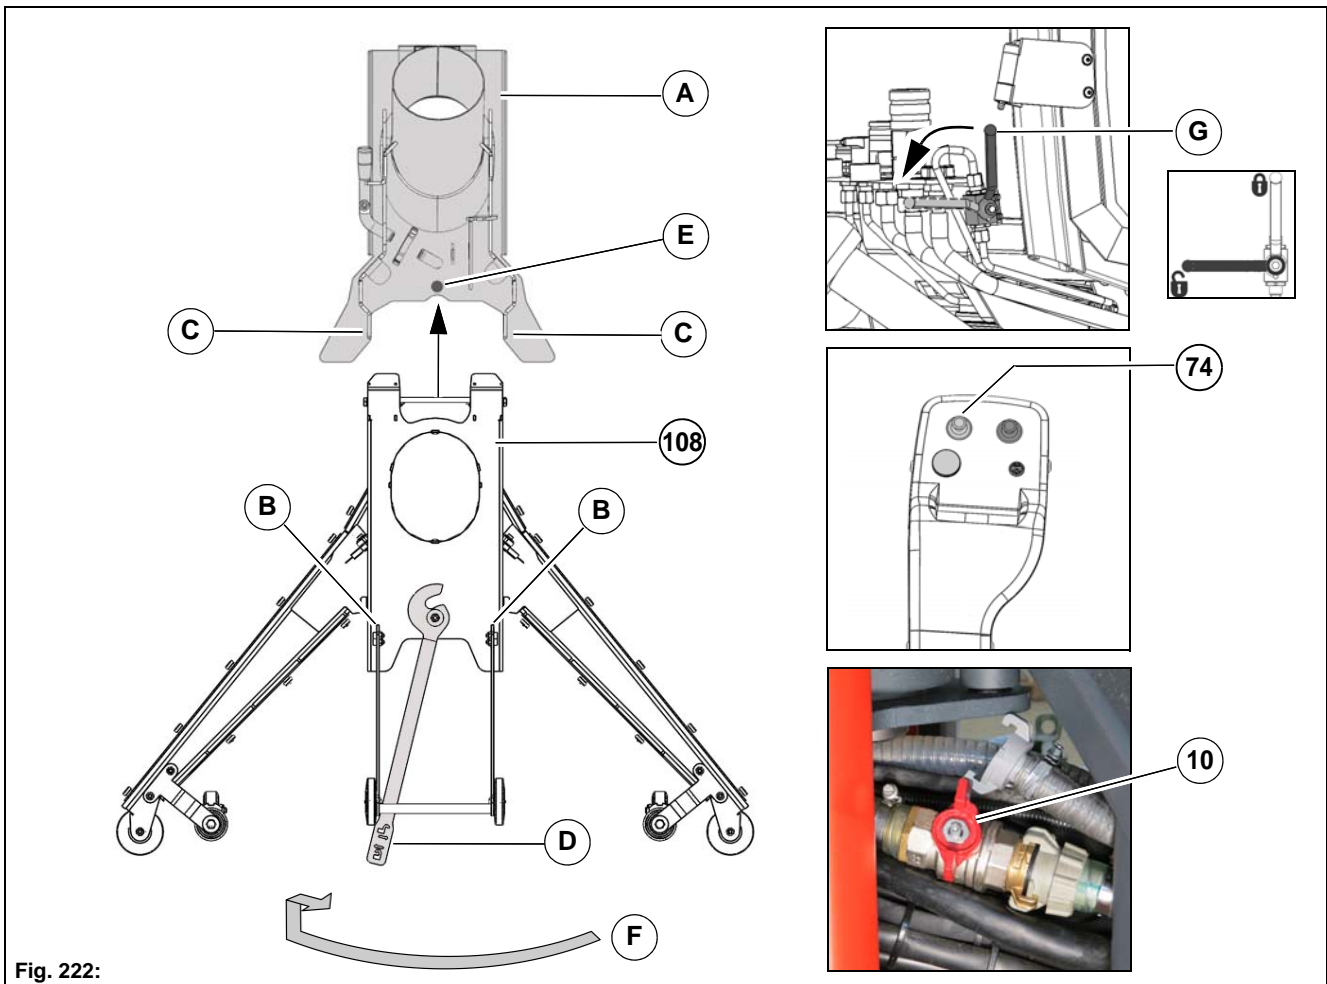

Fig. 222:
3. Remove the squeegee **Fig. 222-108** from the trolley and position it by hand centrally under the holding plate **Fig. 222-A**.
4. Open the ball cock **Fig. 222-G**. Push the joystick **Fig. 222-74** forwards. When the ball cock is open, the holding plate is lowered onto the squeegee.
5. Shift the squeegee centrally under the holding plate until the stops **Fig. 222-B** come up to the points **Fig. 222-C**.
6. With the lever **Fig. 222-D** lock and secure the squeegee on the counter bearing **Fig. 222-E** of the holding plate, see sketch **Fig. 222-F**.